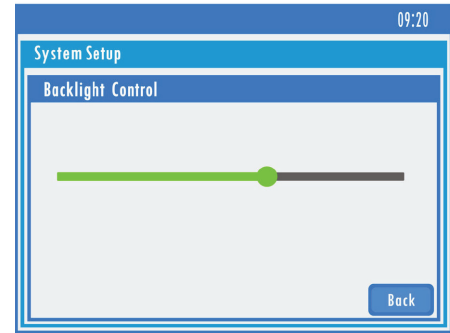

Fig 5-7 Backlight Setup
- **I Backlight Setup:** Click backlight to enter interface, drag dot to update backlight (**Fig 5-7**).